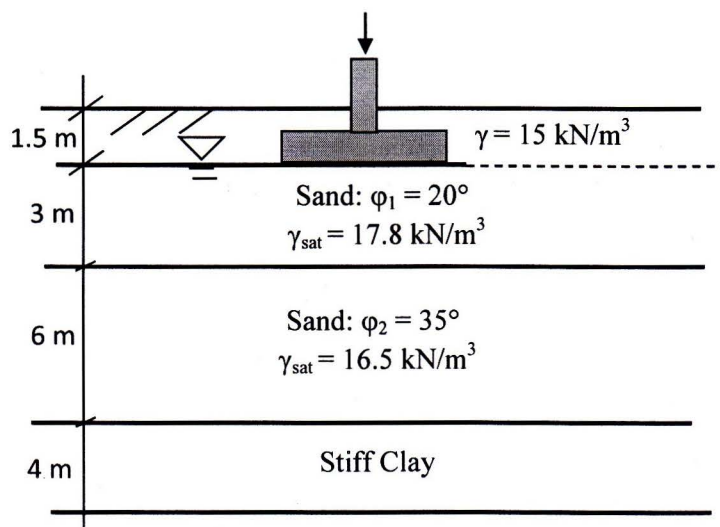

Figure 3
4. According to the soil exploration report, the upper loose sand layer is found homogeneous and overlying medium dense sand (Figure 3). The ground water table is located at 1.5 m below GL. Upper layer extends up to 4.5 m below the ground level.